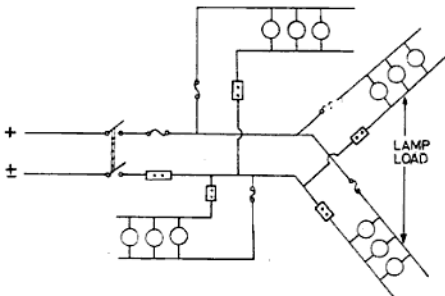

Fig. 10.1 Arrangement of tree system
**Tree System** In this system sub-circuits are tapped off from the main circuit at some convenient place. Nowadays this system is out of practice as there are many joints for sub-circuits. Moreover it is very difficult to find faults. Figure 10.1 shows the connection of such a system.